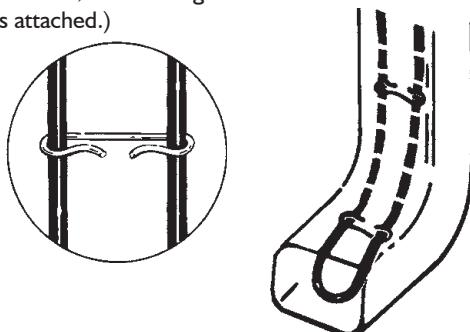

**Figure 20a. Double run of cable in gutter-only applications (gutters with gutter-spikes)**
- If you are treating only the gutters for ice problems, use a “double-run” of cable in the gutters and downspouts. Figure 20a shows a gutter installed with gutter spikes. Route the cable under and over the gutter spike to keep the cable suspended off of the bottom of the gutter. Spacers should be attached every 12 inches. Figure 20b shows a gutter with external gutter straps. Use the clips and spacers to keep the cable suspended off the bottom of the gutter. Clips should be attached every 3 feet along the roof.